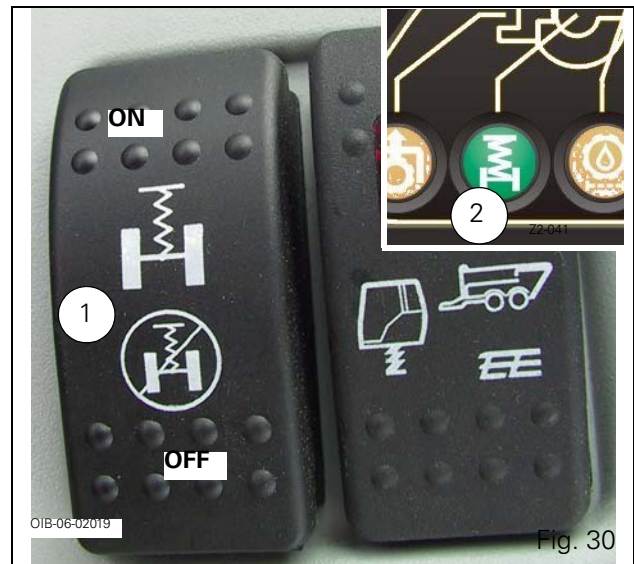

Fig. 30
The front axle suspension can be activated and deactivated by a switch ref. 1. located on the right-hand side of the console inside the cab Fig. 30.